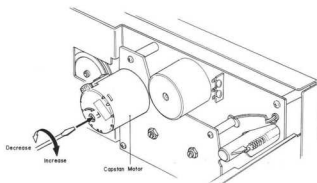

Fig. 5.3
- (1) Remove the Top Cover.
- (2) Connect a Frequency Counter to the Output Jack.
- (3) Load a 3 kHz Speed Wow/Flutter Tape (DA09006A) and play it back.
- (4) Referring to Fig. 5.3, adjust the Tape Speed Adjustment Volume (VR501) incorporated in the Capstan Motor to obtain 3,000 Hz on the Frequency counter.